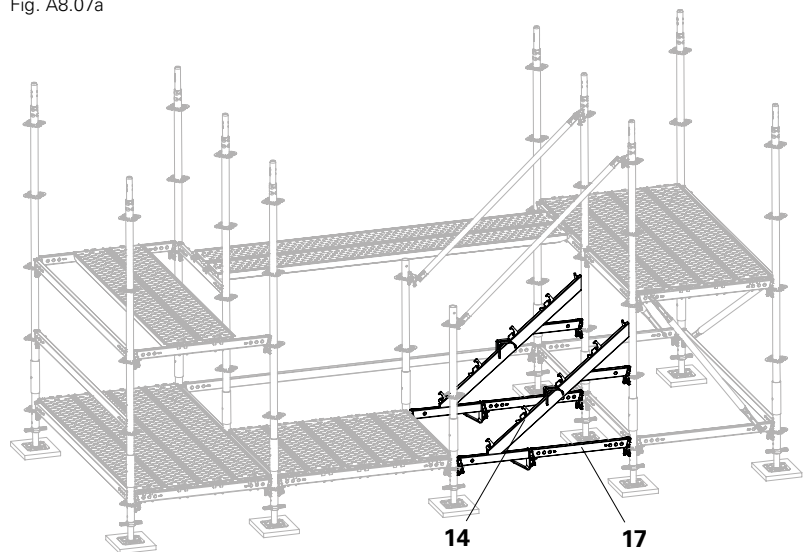

Fig. A8.07
2. Brace with two Horizontal Ledgers UH-2 75 (**17**), secure the wedges. (Fig. A8.07)